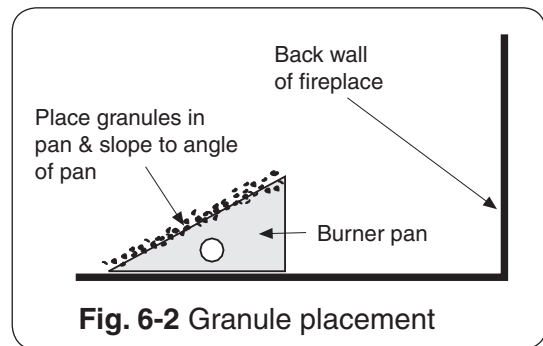

Fig. 6-2 Granule placement
1. Fill the burner pan completely with the granules* (Item 13). See Fig. 6-2. **Avoid spilling the granules on the pilot kit (if equipped).**